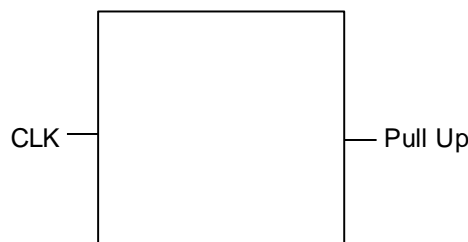

Figure 7-5 Pull-up and Pull-down Pinout Example 1
- ① Place pull-up/pull-down resistor pins as far away from high-speed input pins (clock input pins, etc.) as possible. (Figure 7-5)